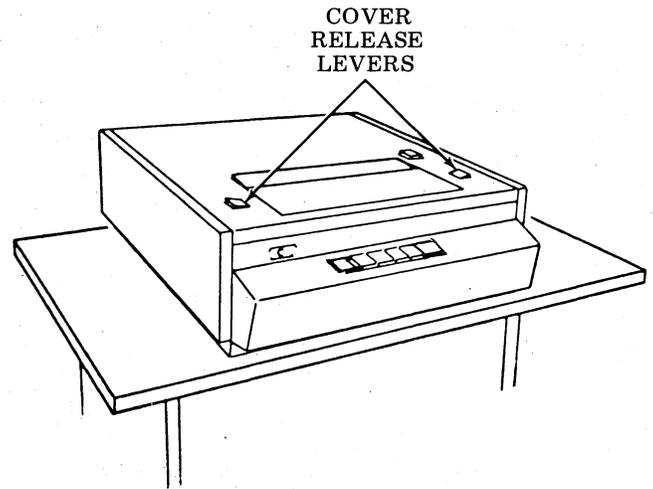

Figure 1 - DATASPEED 40 RO Set
1.01 This section provides lubrication procedures for the DATASPEED 40 printer (Figures 1 and 2).
1. Open lid by pushing in on both release levers located on top of printer cabinet (Figure 1).